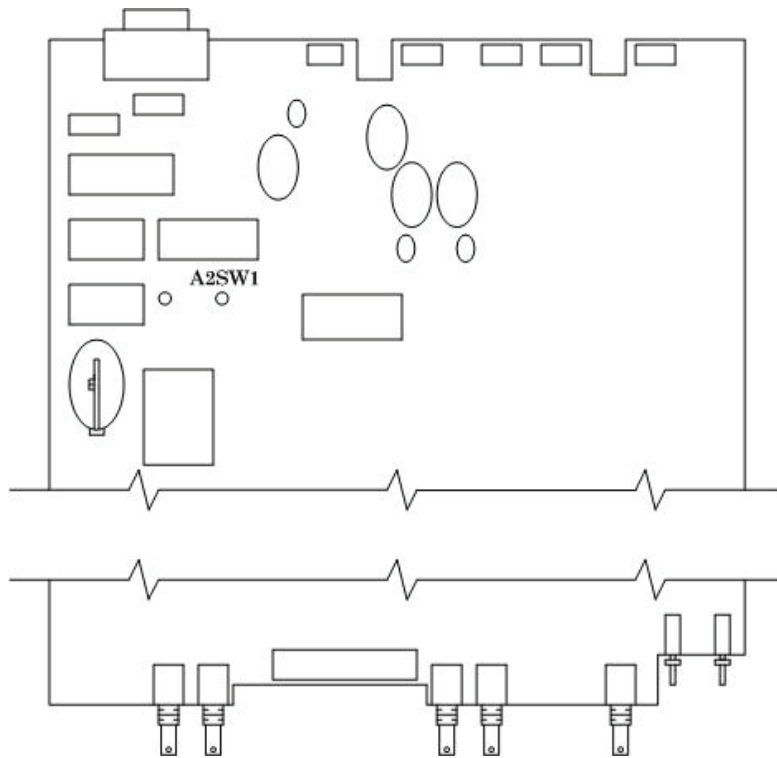
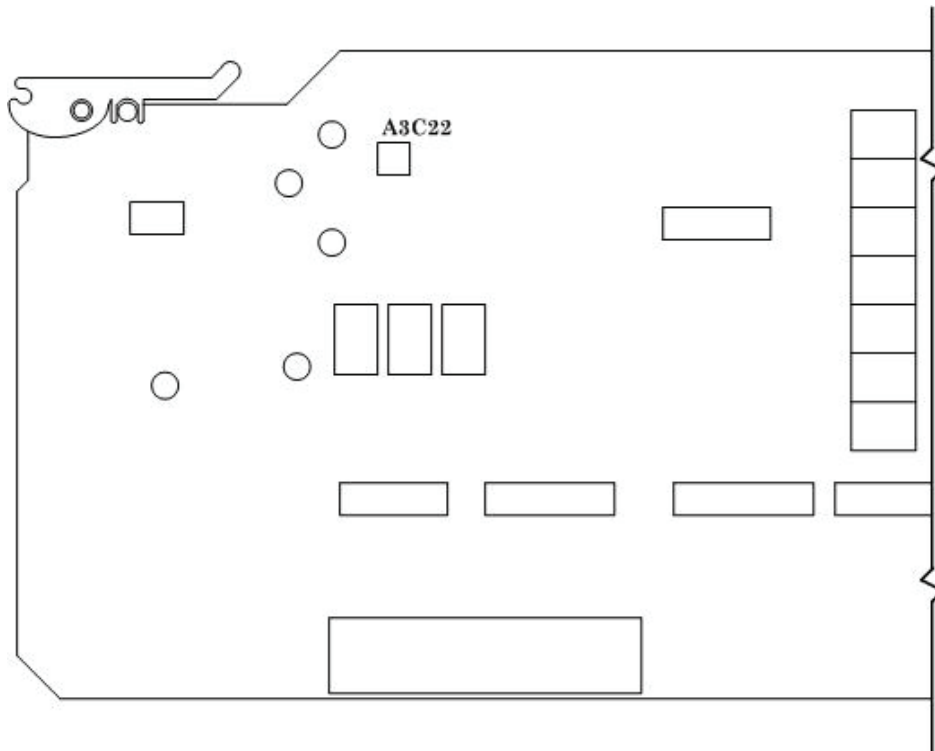
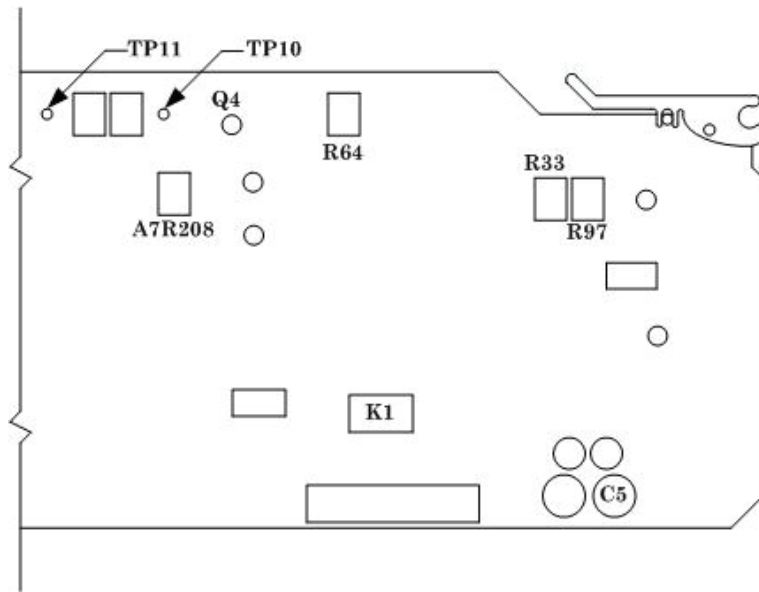

Figure 2. A2 motherboard.
Figure 3. A3 output circuit card adjustment location.
Figure 4. A7 phase lock loop circuit card adjustment location.
(3) Set **POWER** switch to **ON**.
(4) Press and hold (down) A2SW1 (fig. 2) and then press **CALIBRATE** pushbutton.
(5) Observe display indication of **WVTK SN X, XXX, XXX** or **WVTK SN 0**.
(6) Press **CURSOR** $\{$ pushbutton and allow enough time for calibrating mode to complete.
(7) Observe display indication of **ARMY SN X, XXX** or **ARMY SN 0**.
(8) Repeat (6) above observing display indication of **PEAKING C22**.
(9) Connect **UNBALANCED** output to oscilloscope Channel 1 input, using a 50 Ω feedthrough termination.
(10) Adjust A3C22 (fig. 3) for a peak-to-peak aberration of less than 5.4% displayed on oscilloscope (R).
(11) Press **CALIBRATE** pushbutton and verify display indicates **CALIBRATION OFF**.
(12) Disconnect equipment setup and reinstall top cover.
- (3) Position **POWER** switch to **ON**.
- (4) Press and hold (down) A2SW1 (fig. 2) and then press **CALIBRATE** pushbutton.
- (5) Press **CURSOR** { pushbutton three times and observe display indication of **R33, 97, 64, VSINE XXX**.
- (6) Set TI for 5 V p-p output at 9.8 kHz.
- (7) Connect **SYNC OUT** output to oscilloscope Channel 2 input.
- (8) Connect audio analyzer monitor output (rear panel) to oscilloscope Channel 1 input and set oscilloscope controls for display of peak distortion.
- (9) Adjust R33 (fig. 4) until waveform peaks are clearly visible in the residue.
- (10) Adjust R97 (fig. 4) until waveform peaks are symmetrical, above and below the average value of the residue signal.
- (11) Adjust R33 (fig. 4) until peaks disappear back into the residue.
- (12) Observe the overall ripple in the residue in the area of the waveform zero crossings as displayed on the oscilloscope. Adjust **CONTROL** knob cw for clearly visible peaks displayed on oscilloscope and repeat (11) above.
- (13) Repeat technique of (11) and (12) above until minimum overall ripple is displayed on oscilloscope.
- (14) Connect **MULTIMETER +** lead to TP 10 (fig. 4) and **-** lead to TP 11 (fig. 4) and adjust R64 (fig. 4) for display of <1 mV dc.
- (15) Press **CALIBRATE** pushbutton and verify display indicates **CALIBRATION OFF**.